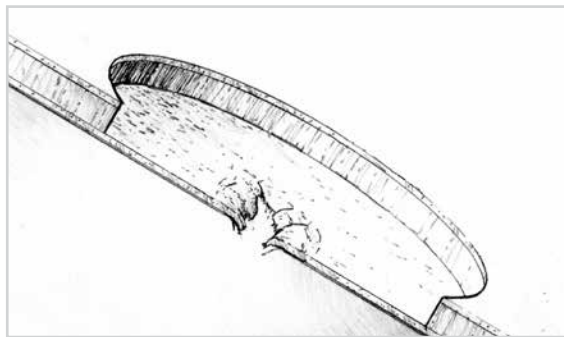

Figure 5-15 Cut back the outer skin and core several inches from the hole through the inner skin.
2. Cut back the outer skin and core several inches from the edge of the hole through the inner skin to provide an area wide enough to grind a 12-to-1 bevel around the edge of the inner skin (Figure 5-15). Use a router with a straight fluted bit set to the depth of the outer skin and core only, to avoid cutting the inner skin. Cut the core and outer skin back 12 times the thickness of the inner skin plus about 1" (25 mm) to leave enough room to grind the inner skin bevel. For example, if the inner skin is $\frac{1}{4}$ " (6 mm)-thick, the bevel will extend 3" (7.5 cm) from the edge of the hole. The core and outer skin should be cut back about 4" (10 cm) from the edge of the hole through the inner skin.